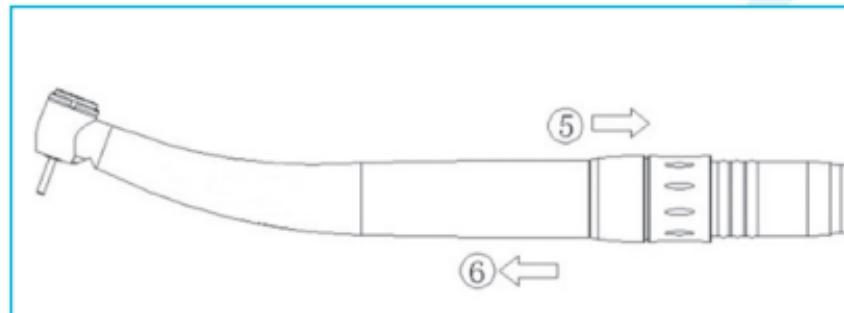

Fig. 6-8
- Hold the LED coupling tightly, slide the lock ring (Fig.6-8⑤).
- Pull the medical device off (Fig.6-8⑥).